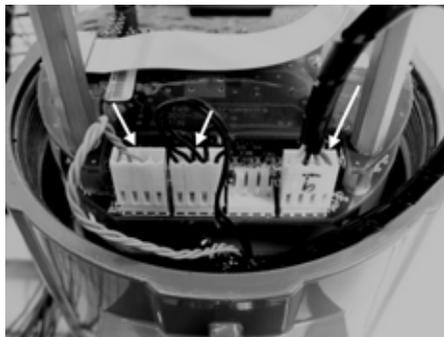

Fig. 52 Electronics stack sensor connections
3. Locate the sensor harnesses which come up from the neck of the flowmeter and attaches to the circuit boards. Make note of the location of each sensor connection. Refer to Figures 52 and 53. The turbine sensor connection is on the left, the temperature sensor connection (if present) is second from the left, and the pressure sensor connection (if present) is the right most connector. Use small pliers to pull the sensor wiring connectors off of the circuit boards.